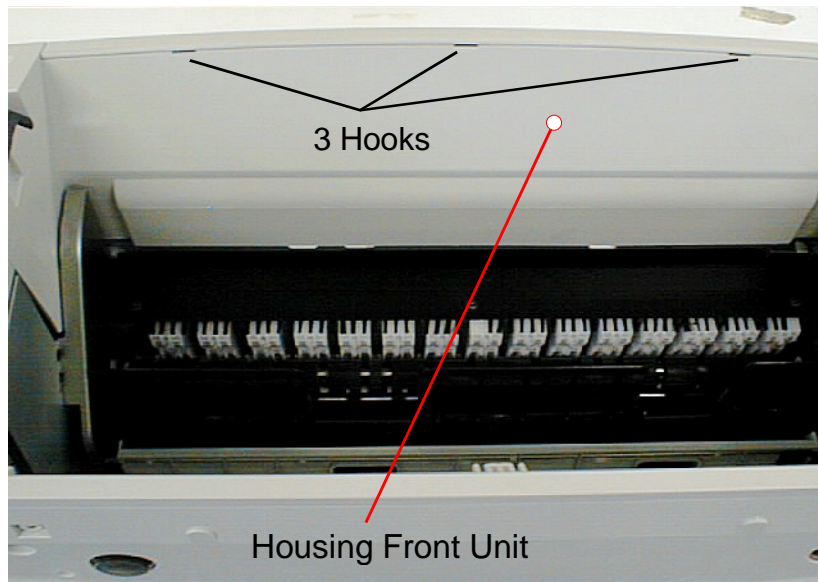

Figure 4-5. Location of Hooks
5. Insert a minus driver to 3 airspace (A), located upper paper eject of "Housing Front Unit", and remove hooks which are connecting "Housing Upper" and "Housing Front Unit". (Refer to Figure 4-5)